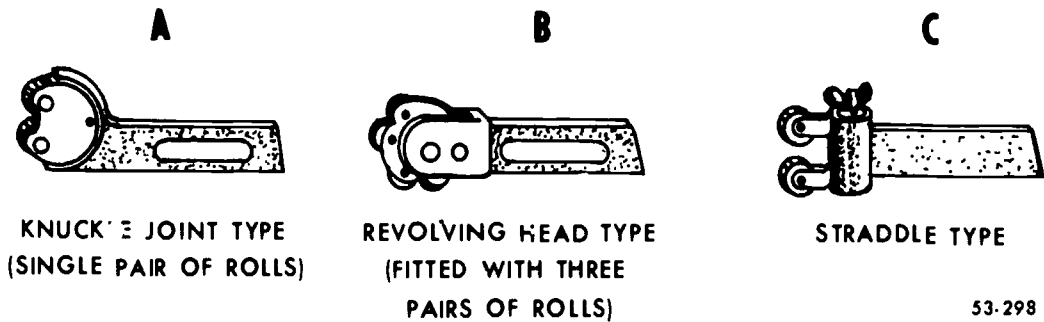

Figure 5-51. Types of knurling tools.
*Knurling tools.* The three common types of knurling tools are the knuckle joint, shown in figure 5-51,A; the revolving head, shown in figure 5-51,B; and the straddle, shown in figure 5-51,C. The revolving head type has three sets of rolls, while the knuckle and straddle types each have one set of rolls. NOTE: The straddle-type knurling tool is used primarily to knurl small diameter work. The work revolves between the two rolls and is not distorted because the pressure of one roll counteracts the other.